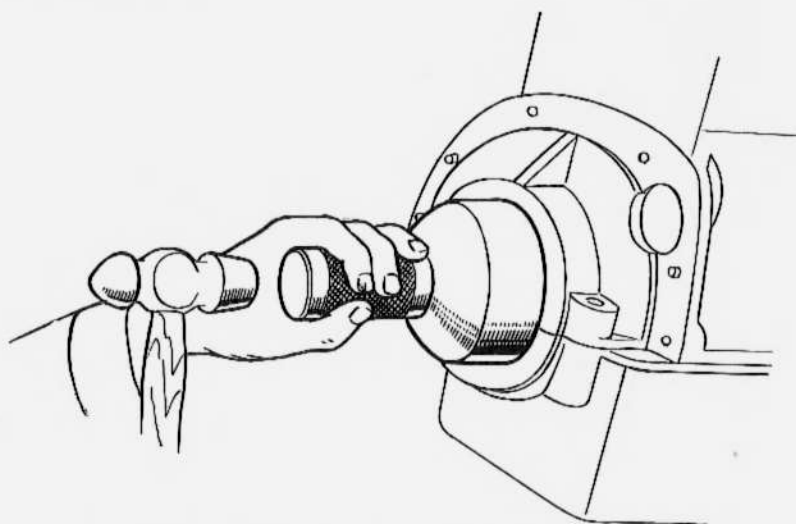

Figure 73 - Installing Crankshaft Rear Oil Seal
(3) Install rear bearing cap. Tighten rear bearing cap bolts to 75 to 90 ft-lbs torque and lock bolts with cap bolt locks.
(4) Make sure oil seal groove is clean.
(5) Apply thin coat of oil on new oil seal and install into oil seal groove using replacer (FA70 SST-1072) (Fig. 73).